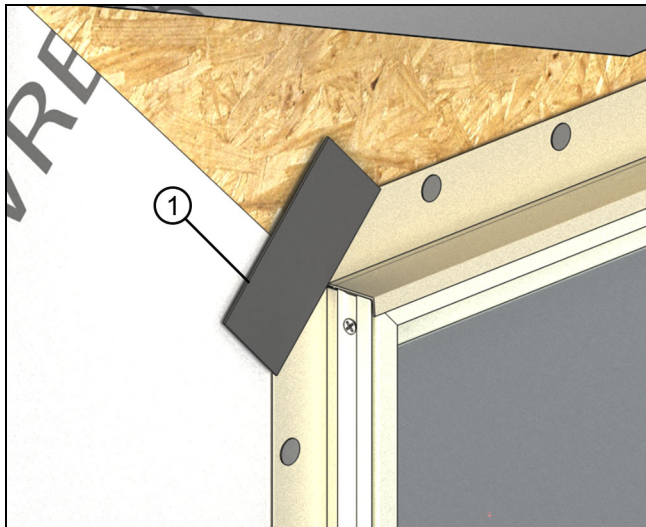

Figure 54
1. On units that use nailing fin, apply a 2" x 4" strip of flashing material at 45 degrees to the corner, bridging the gap between the nailing fin. Do this at all 4 corners. See Figure 54.